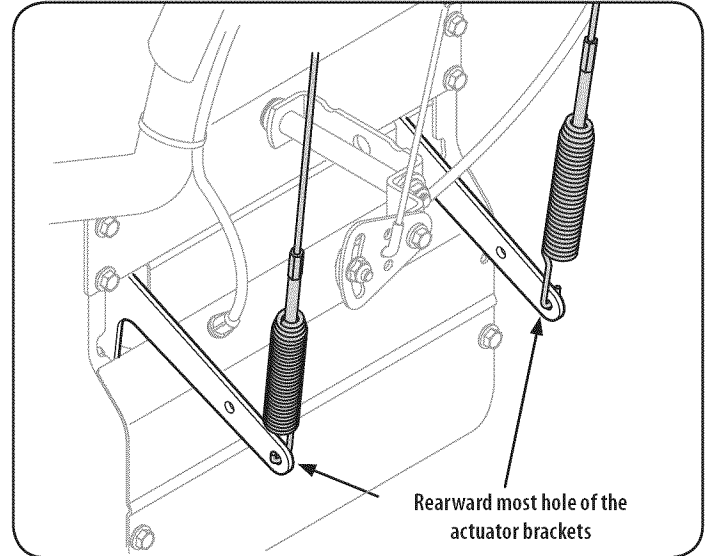
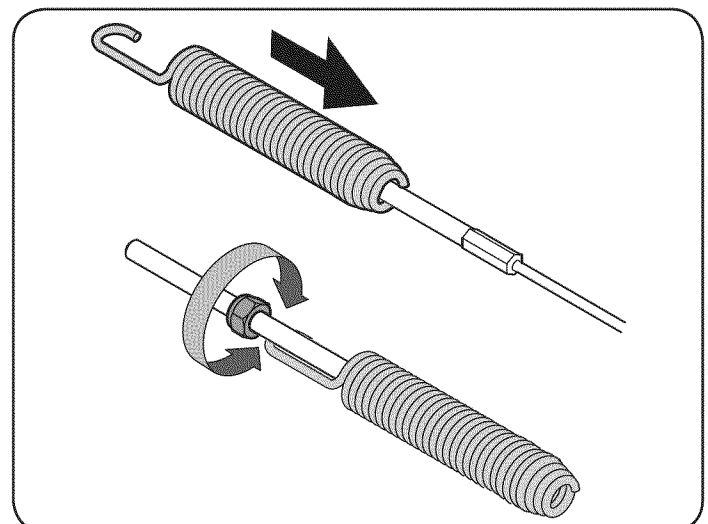

Figure 14
Figure 15
1. From beneath the handle, pull downward on the appropriate cable and unhook the spring found on the end of the cable from its respective actuator bracket. Refer to Figure 14 and Figure 15.
2. Slide the spring up the cable to expose the cable coupler threads and lock nut. Refer to Figure 15.
5. Securely hook each cable's spring into the appropriate hole of the respective actuator bracket. Both cables hook into the rearward-most hole in each bracket, as shown in Figure 14.